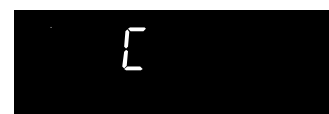

Fig. 5
7. Press (START) and hold for 3 seconds (See Fig. 5). This recipe is now stored with the **BAKE** key pad